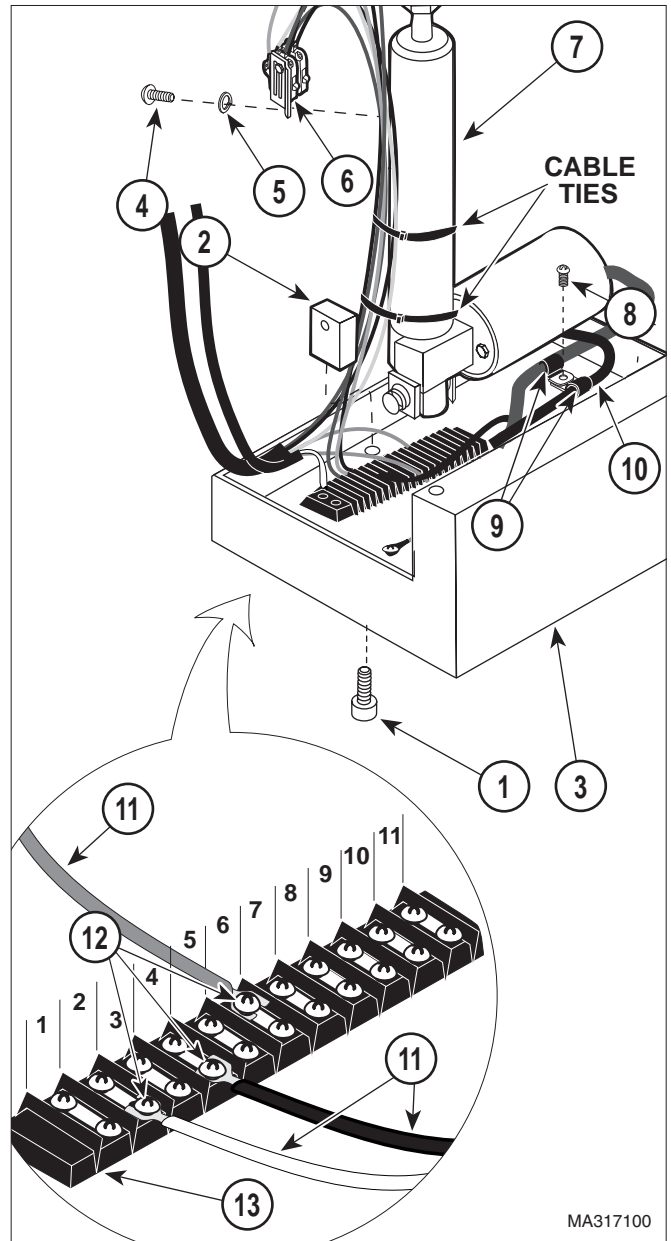
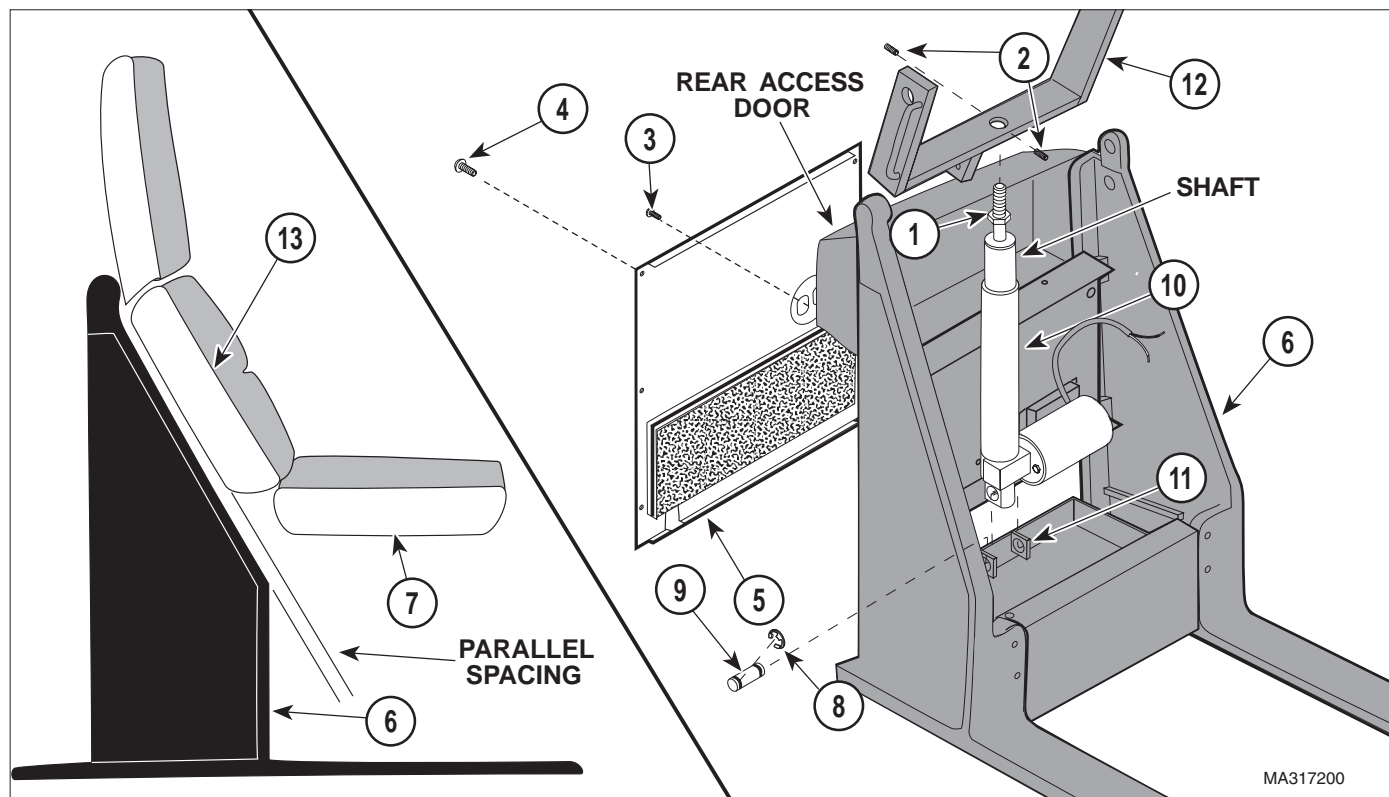

Figure 4-6. Wires Disconnection / Connection
Figure 4-7. Base Actuator Removal / Installation
- (3) Lay chair onto its right side (patients).
- (4) Remove two screws (1, Figure 4-6) and gas spring base mounting bracket (2) from base casting (3).
- (5) Remove two screws (4), lockwashers (5), and switch bracket assembly (6) from shaft of base actuator (7).
- (6) Cut cable ties securing wires to base actuator (7).
- (7) Remove screw (8) and two cable clamps (9) from base casting (3). Remove cable clamp (9) off of base actuator cable (10).
- (8) Tag three actuator wires (11); then loosen three terminal screws (12) and disconnect three actuator wires (11) from terminal block (13).
- (9) Loosen jam nut (1, Figure 4-7).
- (1) Screw jam nut (1, Figure 4-7) onto threads of base actuator (10) fully.
- (2) If unit does not have two setscrews (2), apply permanent threadlocking adhesive (Loctite 262) to threads of base actuator (10).
- (3) While supporting seat section (7), screw new base actuator (10) into chair yoke frame (12) approximately the same distance as old base actuator used to be.
- (4) While supporting seat section (7), connect base actuator (10) to bracket (11) with clevis pin (9) and two e-rings (8).
- (5) Connect three actuator wires (11, Figure 4-6) to terminal block (13) and secure by tightening three terminal screws (12).
- (6) Install one cable clamp (9) onto base actuator cable (10); then secure both cable clamps (9) to base casting (3) with screw (8).
- (7) Install switch bracket (6) on shaft of base actuator (7) and secure with two lockwashers (5) and screws (4).
- (8) Secure wires to base actuator (7) with three cable ties.
- (9) Raise chair to upright position.
- (10) Plug chair power cord into wall outlet.
- (11) Run SEAT UP function all the way up and TABLE DOWN function all the way down.
- (12) If lower back casting (13, Figure 4-7) *is* parallel with angled surface of side upright (6), go to step 16.
- (18) Lay chair onto its side.
- (19) Install gas spring base mounting bracket (2, Figure 4-6) on base casting (3) and secure with two screws (1).
- (20) Raise chair to upright position.
- (21) Install gas spring (Refer to para 4.5).
- (22) Install stirrup.